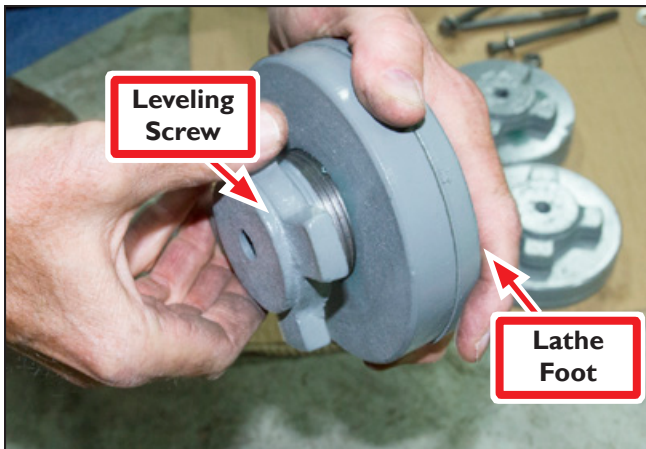

Figure 2.3
4. Unscrew Leveling Screw on each Lathe Foot until close to full height (see **Figure 2.3**); apply a dab of grease on threads.